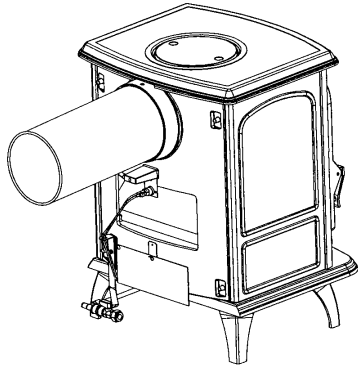

Fig.33
5. Disconnect the snap switch leads from the snap switch located at the back of the stove. (See Fig. 33).
6. Remove the two M6 wing nuts located on the under side of the stove on the right and on the left. (See Fig.33).